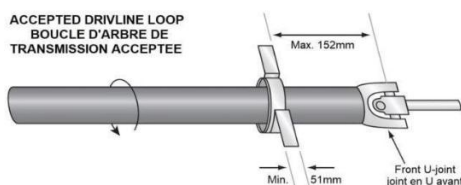

FIG 1.5
e. For RWD and AWD vehicles recording times under 9 seconds, it is recommended to secure the driveshaft with a “driveline loop” as shown in Figure 1.5.